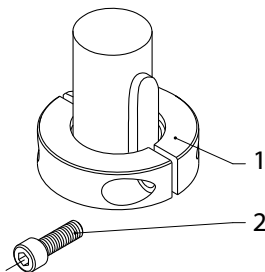

Fig.4-4 Mounting clamping ring
7. Tighten the bolts (→ Fig.4-4/2) on the clamping ring (→ Fig.4-4/1).